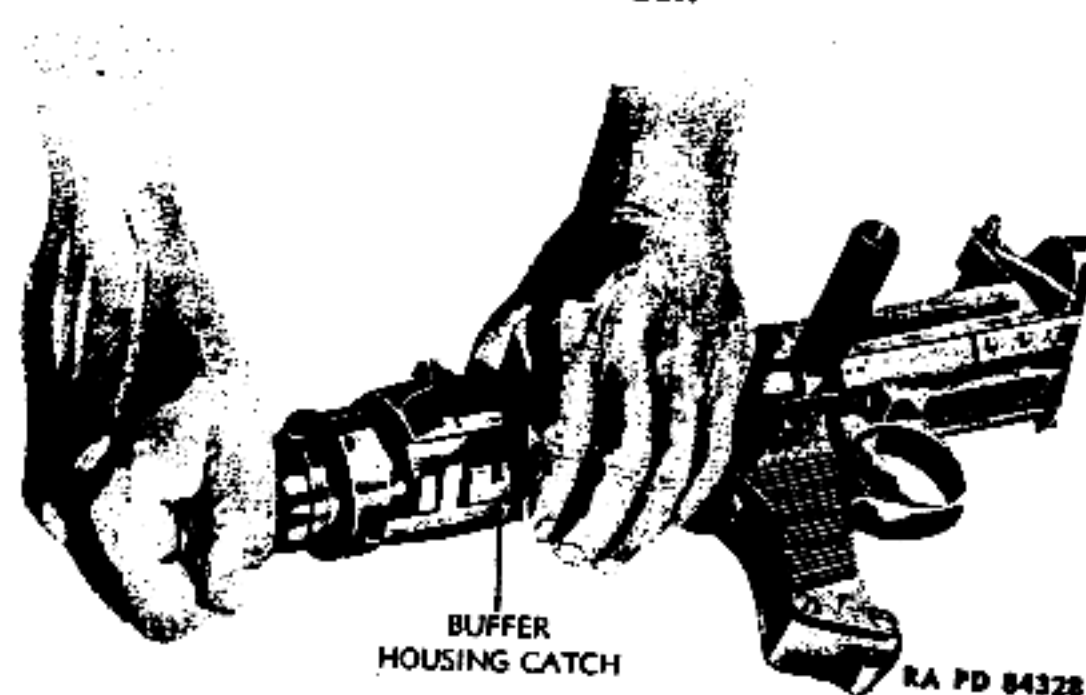
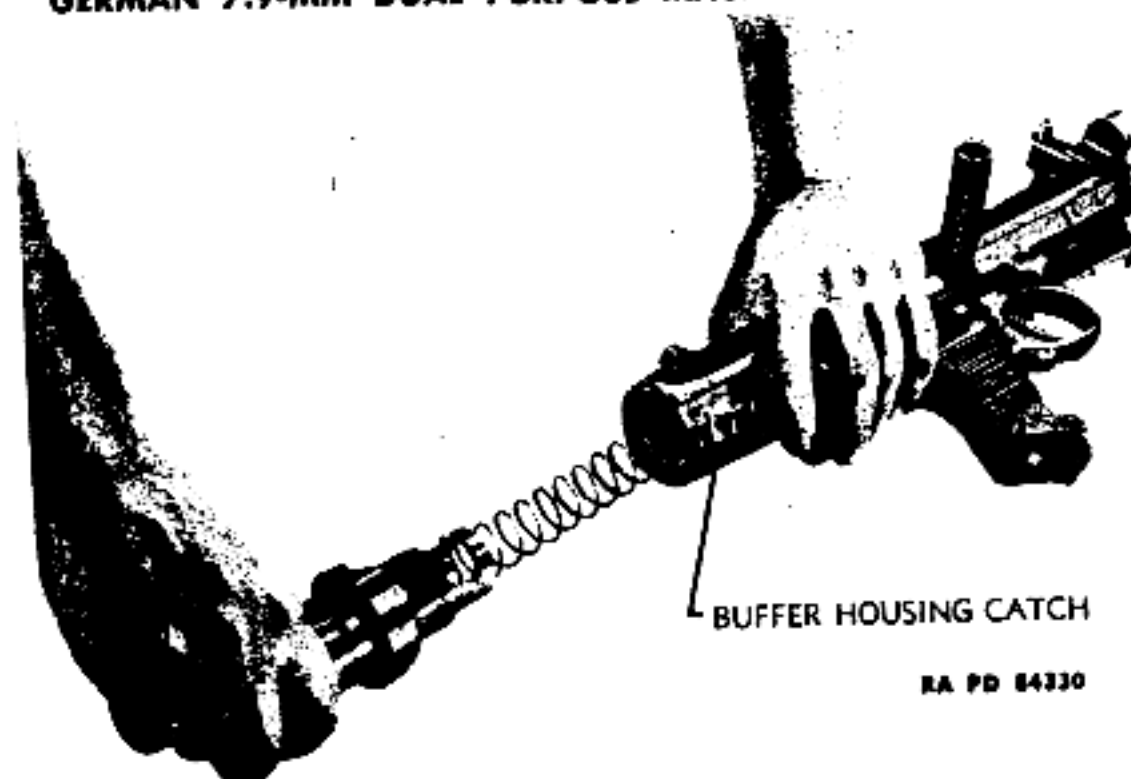

Figure 47 — Unlocking Buffer
Figure 48 — Removal of Buffer
c. **Buffer Housing.** Press the buffer housing catch beneath the rear end of the receiver, rotate the buffer housing one quarter turn counterclockwise (fig. 47) and remove the housing (fig. 48), taking care not to let the spring fly out.